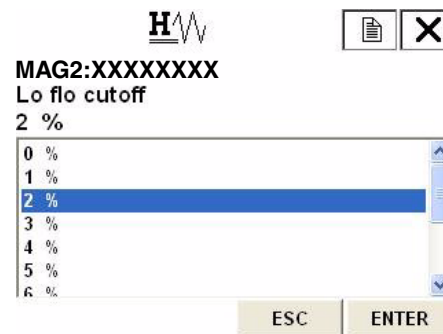

Figure 84.
Figure 84 is then displayed.
2. Once the display as shown in Figure 84 appears, move the arrow key up or down to select low flow cut value. The value can be specified from 1% to 10%. After making a selection, press F4(ENTER). If F3 (ESC) is pressed here, the selection is canceled and the display returns to the Noise immunity menu.